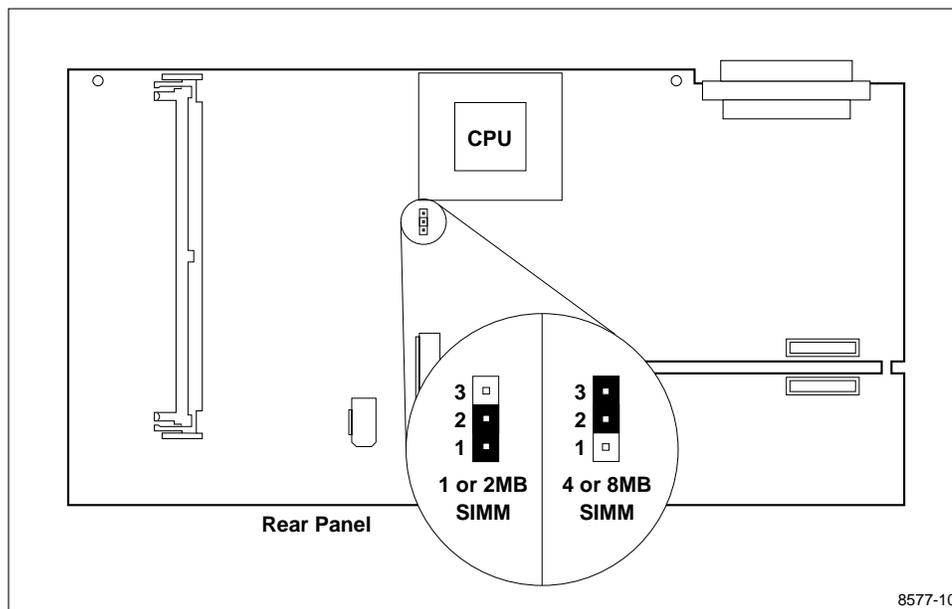
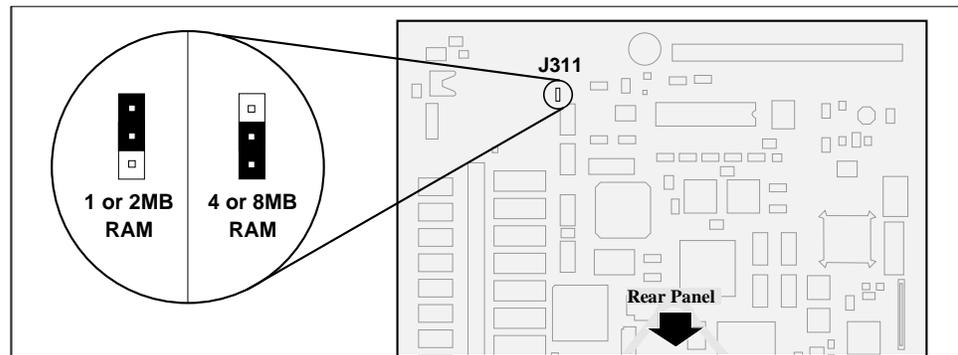

Figure 14. Memory Size Jumper Setting
Figure 17. Memory Size Jumper Locations on the XP10T Main Logic Board
4. Install the memory size jumper as shown in Figure 14.
2. Install the memory size jumper on the XP10T Main Logic board as shown in Figure 17. There is no jumper to install on the XP100 Main Logic board.
The Netstation starts but rings the bell and displays the boot monitor screen. One or more fault messages appear on the screen.	<ol style="list-style-type: none">1. Write down all the fault messages. Use Table 5 to help you interpret the fault messages and determine the faulty field-replaceable unit.2. Check the position of the size jumper on the Main Logic board (see Figure 9, Figure 10, Figure 14, or Figure 17).3. Start Extended Self-Test (described under Installation in the Pizza Box "B" Cabinet on page 19).